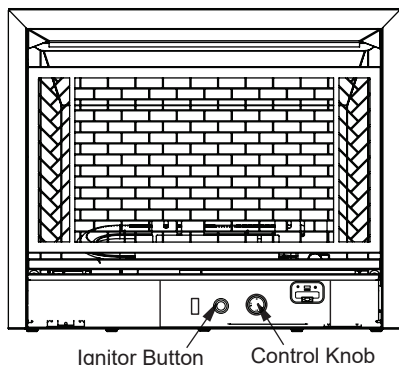

Figure 23 - Control Knob in the OFF Position
- 4. Wait five (5) minutes to clear out any gas. Then smell for gas around heater and near the floor. If you smell gas, STOP! Follow "B" in the safety information above. If you do not smell gas, go to the next step.
- 5. Turn control knob counterclockwise  to the PILOT position. Press in control knob for five (5) seconds (see Figure 23).